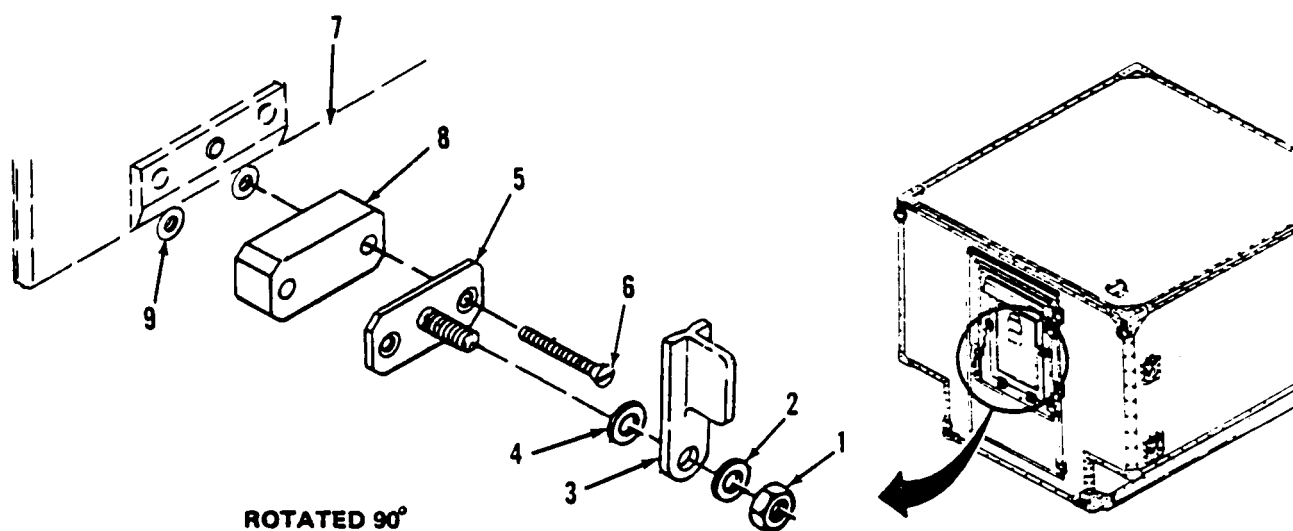

Figure 3-28. Louver Cover Assembly Latch Replacement.
a. Inspect. (Figure 3-28)
- (1) Inspect latch (3) for wear or damage.
- (2) Inspect stud plate assembly (5) for damage and secure mounting.
- (3) Check for loose or missing hardware.
b. Replace. (Figure 3-28)
- (1) Remove and retain a nut (1), flat washer (2), latch (3), and flat washer (4) from stud plate assembly (5).
- (2) Remove and retain two flat head screws (6) attaching stud plate assembly (5) to inner door panel (7) and remove the stud plate (5) and spacer (8).
- (3) Inspect condition of rivnuts (9) and replace if necessary (paragraph 3-9.b).
- (4) Position spacer (8) and stud plate assembly (5) in place, dip the two mounting screws (6) in sealer, and secure stud plate (5) and spacer (8) to inner door panel (7).
- (5) Slide flat washer (4), latch (3), and flat washer (2) onto stud and secure with nut (1).
- (6) Apply a continuous bead of sealer around spacer (8).